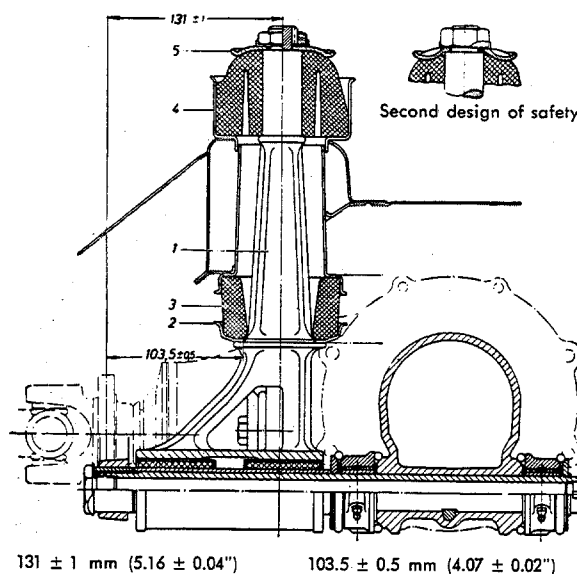

Fig. H 3/73
54. Install bracket with gauge holder and dial gauge into the housing (Fig. H 3/54).
74. Check distance between front end of universal joint flange and center of rear axle suspension support. It should be 131 ± 1 mm (5.16 ± 0.04 "). In actual practice the distance to the collar (103.5 ± 0.5 mm = 4.07 ± 0.02 ") is checked with gauge 180 589 04 23 (Fig. H 3/73).